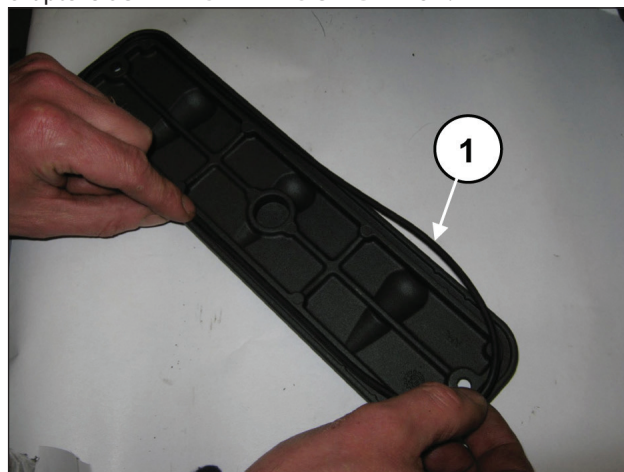
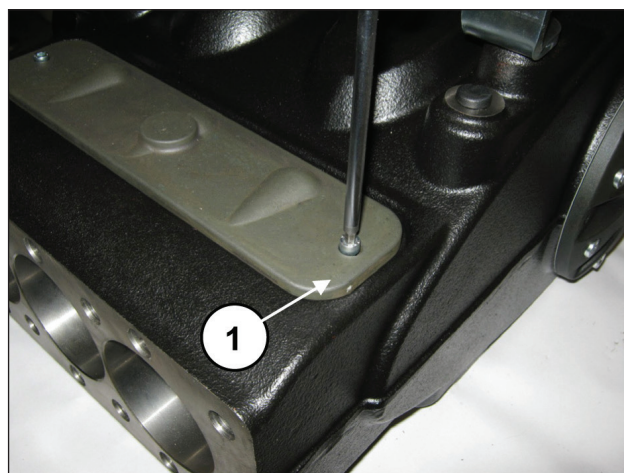

Fig. 93
Fig. 94
Apply O-rings on the inspection covers (pos. ①, Fig. 93) and tighten with 2 M6x14 screws (pos. ①, Fig. 94) and 2 screws M6x40.